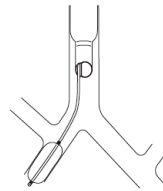

Fig.10
4. For a patient with the upper lobe of the right lung located very close to the tracheal bifurcation, blocking the middle and lower lobes of the right lung, instead of the whole right lung, can be achieved by placing the blocker in the intermediated bronchus (Fig.10).